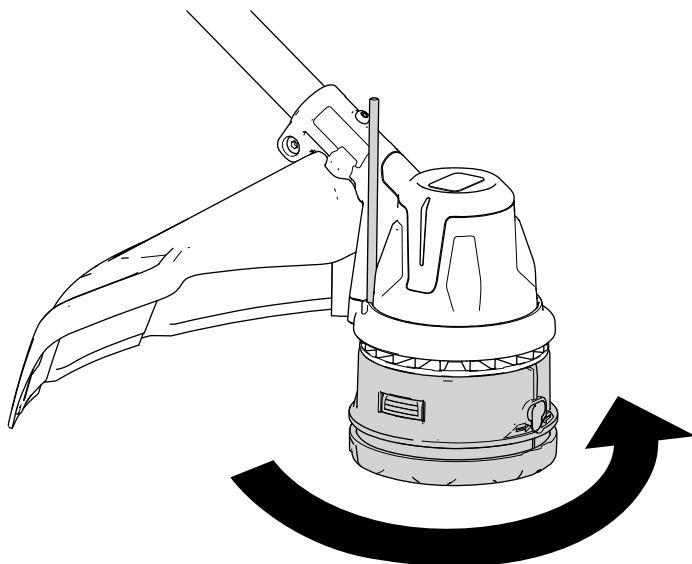

Figure 22
3. With a tool securing the trimmer head, rotate the trimmer head counterclockwise to remove it from the threaded gearcase post (Figure 22).